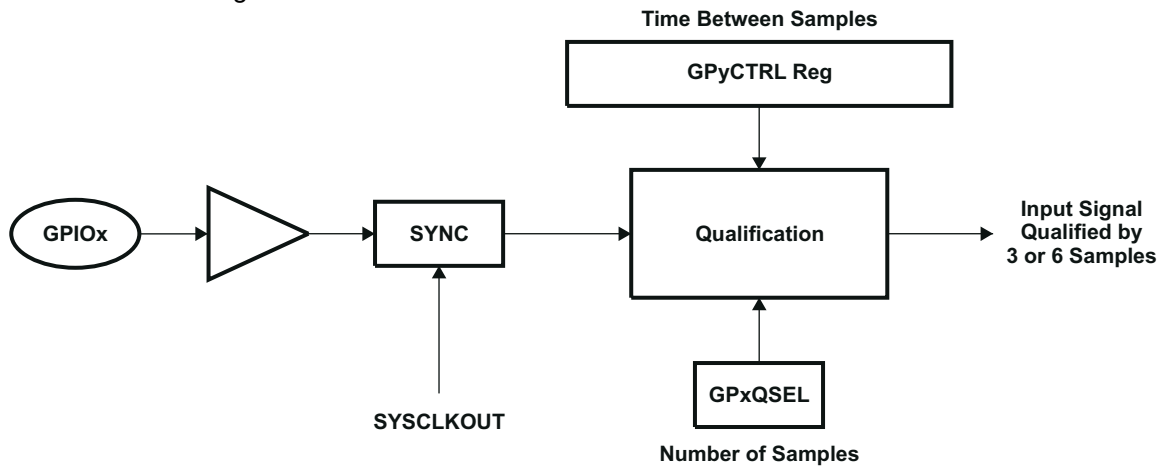

Figure 8-17. Qualification Using Sampling Window
- The sampling period is specified by the QUALPRD bits in the GPxCTRL register and is configurable in groups of 8 signals. It specifies a multiple of SYSCLKOUT cycles for sampling the input signal. The sampling window is either 3-samples or 6-samples wide and the output is only changed when all samples are the same (all 0s or all 1s) as shown in Figure 8-17 (for 6-sample mode).